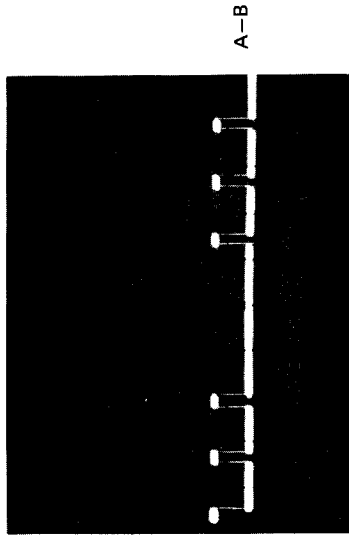

Figure 18. Resultant Display
6. With either channel A or B VOLTS/DIV vernier **59**, adjust for minimum deflection in common-mode signal. The resultant display will either subtract all of unwanted component or display desired signal larger than common-mode signal. (See figure 18.)